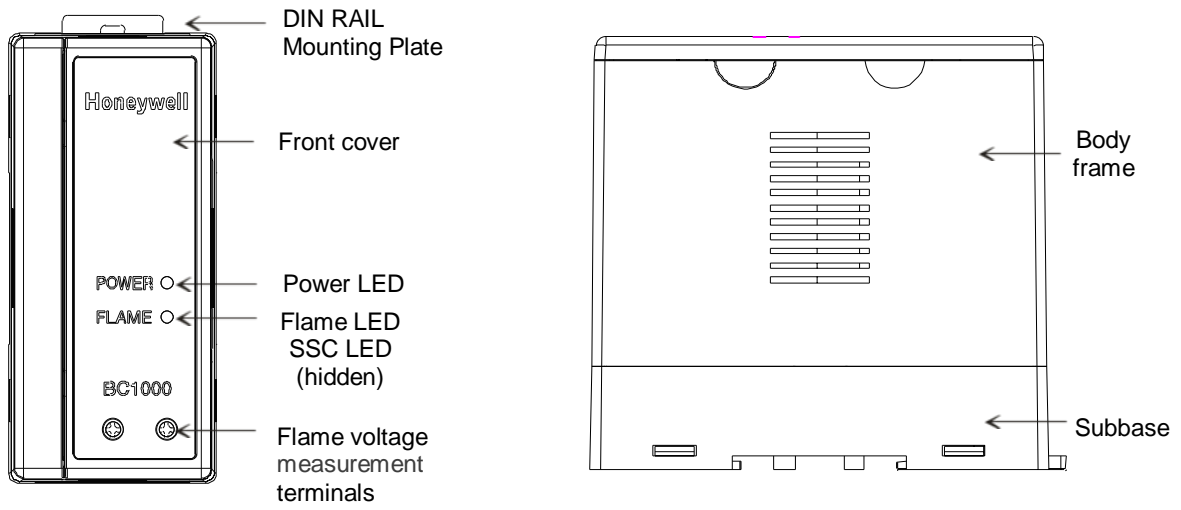

Fig. 1: Appearance
- 1) Remove the front cover as shown in Fig. 1 and unscrew the Phillips head fixation screw by about 8 turns CCW.